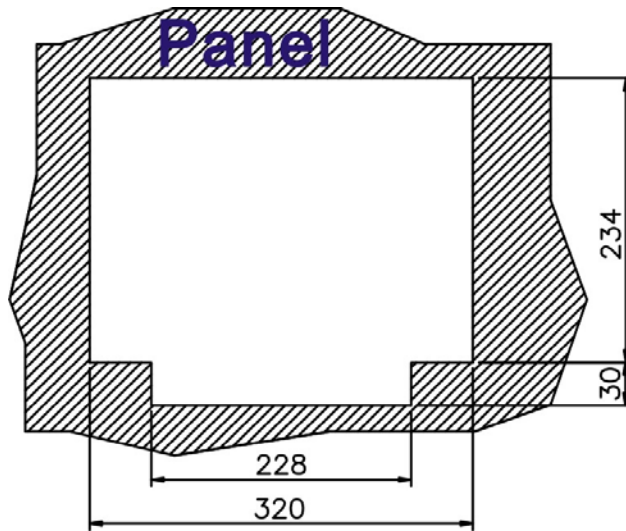

Figure 4-15: AFL-15A-N270 Panel Opening (Unit: mm)
- Step 2:** Cut out a section from the panel that corresponds to the rear panel dimensions of the flat panel PC. Take care that the panel section that is cut out is smaller than the overall size of the frame that surrounds the flat panel PC but just large enough for the rear panel of the flat panel PC to fit through (see **Figure 4-15**).